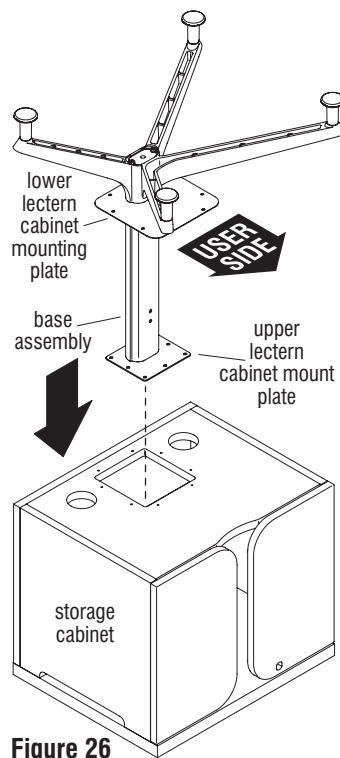

Figure 26
7. Carefully place the storage cabinet upside down on a soft, protective surface. Position the base assembly over the storage cabinet as illustrated with the longer legs facing the cabinet doors side. Then, insert the upper lectern cabinet mounting plate through the opening in the underside of the storage cabinet and allow the lower lectern cabinet mounting plate to rest on underside of the storage cabinet (Figure 26 & Detail K2).